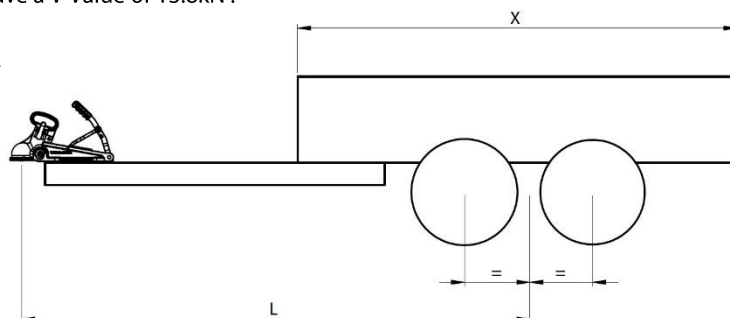

Figure 3: Illustration of X and L in V-Value calculations
- X – Length of the loading area of the trailer (in metres) – Refer Figure 3
- L – Distance from the towball centre to the centre of the axle or axle group (in metres) – Refer Figure 3